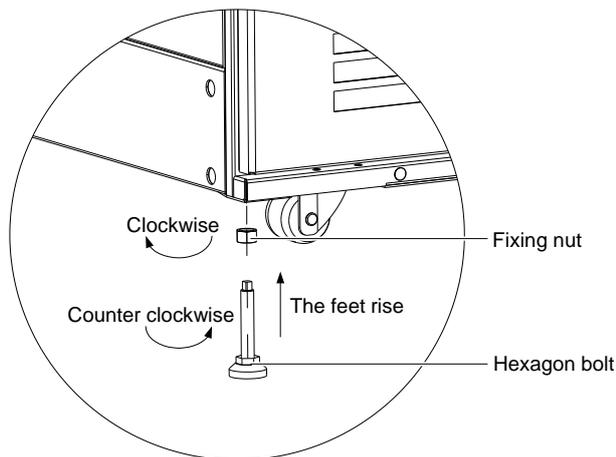

Figure 3-2 Loosening the fixing nut
1. Place the cabinet on the prearranged position, and use a movable wrench to loosen the fixing nuts on the four feet bolts on the cabinet, as shown in Figure 3-2.
3. Tighten the fixing nuts (shown in Figure 3-2) on the feet bolts counter clockwise, and the cabinet adjustment is completed.